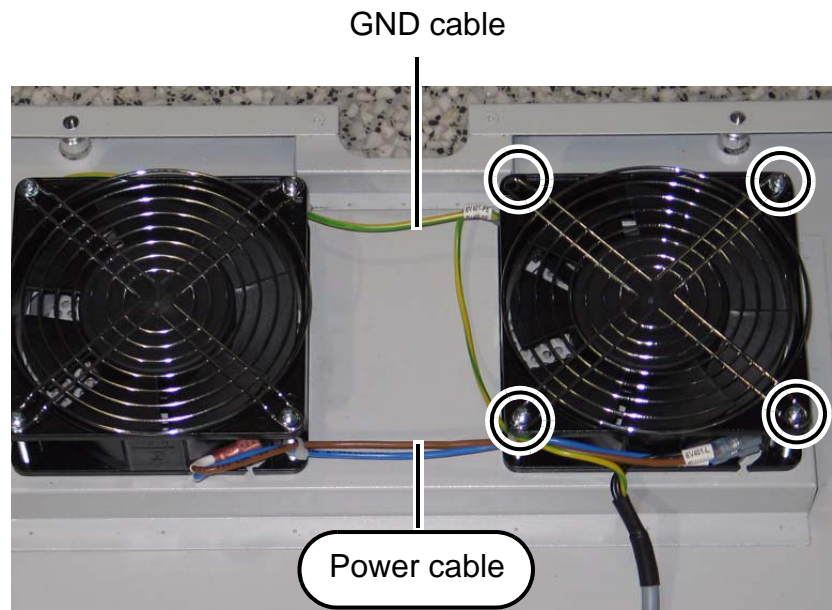

Figure 42: Host Rack Fans
3. Remove the four screws which secure the Fan to the Rear Cover as shown in Figure 42 on page 54.